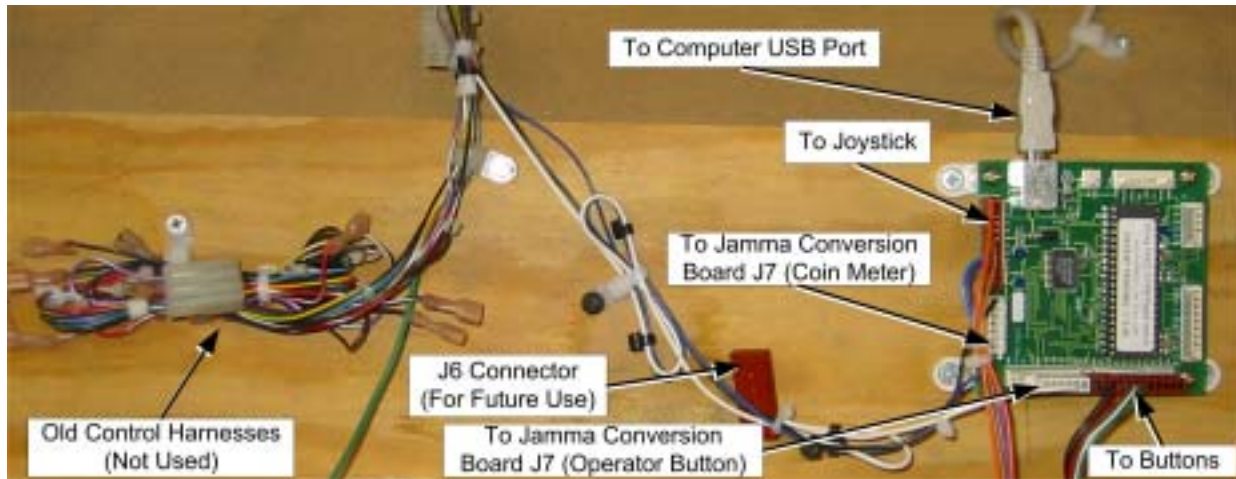

Figure 3. Happ UGCI Board Connections
2. Mount the board below the control panel where the button and joystick harnesses will reach it, as shown in Figure 3.
3. Secure the board with wood screws in the plastic feet as shown in Figure 3.
7. Connect the coin meter operator button harness (part #: 115-0062-01) to **J3** and **J5** of the UGCI board, as shown on the labels on the harness. Route the other end to the service tray and connect it to **J7** on the Jamma Conversion Board. Secure the harness with a cable tie as shown in Figure 3.
8. Coil the old button harnesses and secure them with a cable tie as shown in Figure 3.